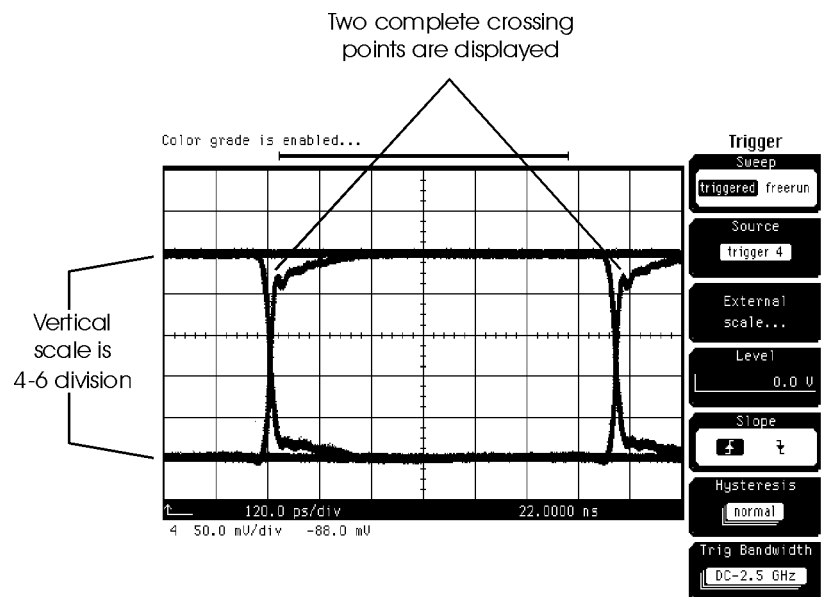

Figure 5-2. Position of data waveform.
To make Eye Diagram measurements, the data waveform must be properly positioned on the instrument display. The measurement algorithm needs at least two full crossing points on screen to be able to make the measurements. You should also have about four divisions of vertical scale. Refer to Figure 5-2.
8. Scale the waveform to show two complete crossings (refer to Figure 5-2) by pressing: